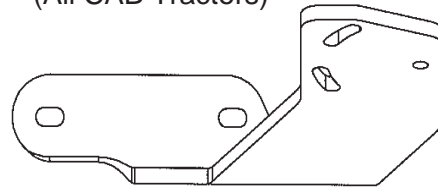

Figure 6 Use on Cab (Remote Cable Control) Models
2. When Connecting the hoses to the control valve follow the directions as shown in the hydraulic diagram (See Figure 6). Do not connect hoses backward as this could damage the components.
1. Install Control Valve Mount Bracket, Cab Model The cab model uses a bracket that will bolt inside the cab to the fender wall (See Figure 6, 7 & 8). NOTE: For exact instructions on the removal of any upholstery panels consult the tractor manufactures service / repair manual. The inside upholstery panel on the RH side of the cab will need to be removed to find the two threaded mounting holes for the control stand will bolt onto (See Figure 6) to the side pillar of the cab on the right hand side. Install the control Stand P/N 02979374 to the side panel of the RH cab support post (See Figure 6)